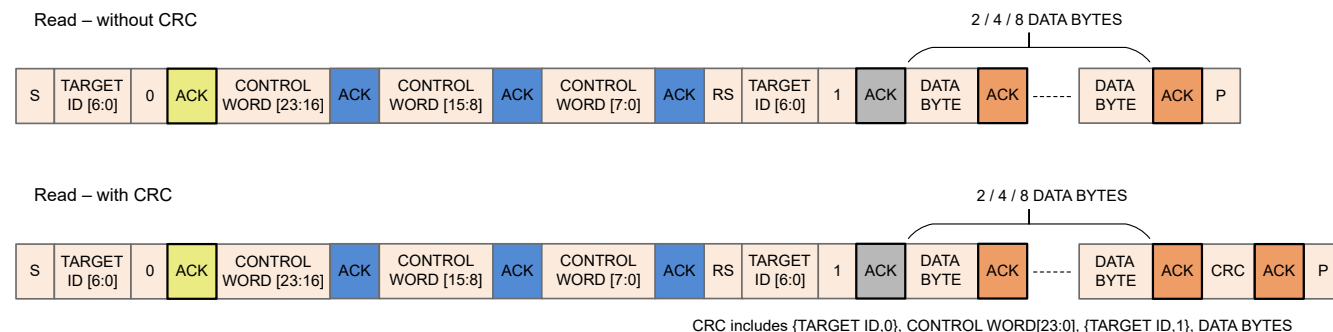

图 7-55. I²C Read Transaction Sequence
- When target ID is a match, I²C peripheral in MCT8315A raises a start interrupt request. Until this start interrupt request is processed, clock is stretched. Upon processing this request, clock is released and an ACK (marked in yellow or grey in 図 7-54 and 図 7-55) is sent to the controller for continuing with the transaction.
- Receive interrupt pending:** When a receive interrupt is waiting to be processed and the receive register is full which occurs when two successive bytes (data or control) have been received by MCT8315A (separated by one ACK shown as blue boxes in 図 7-54 and 図 7-55) without the receive interrupt generated by the first byte being processed. Upon receive of second byte, clock is stretched until receive interrupt generated by the first byte is processed.